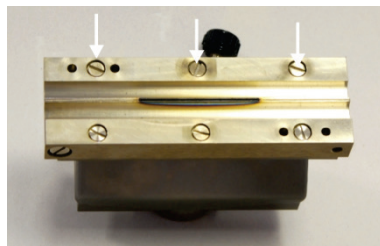

Fig. 45 Screws on the front burner jaw
1. Unscrew the screws from the front burner jaw (arrow in Fig. 45) (the screw for fastening the burner on the connector of the mixing chamber is also located on the side of the front burner jaw).